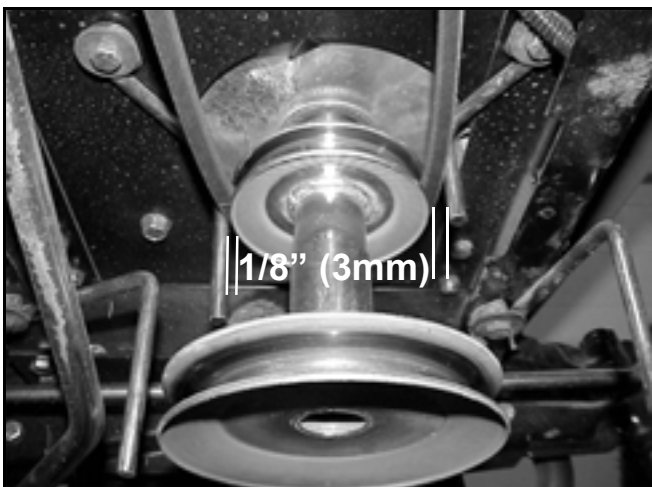

Figure 65
11. Adjust both the right and left engine belt guides so they are within 1/8" (3mm) of the engine pulley (Figure 65).